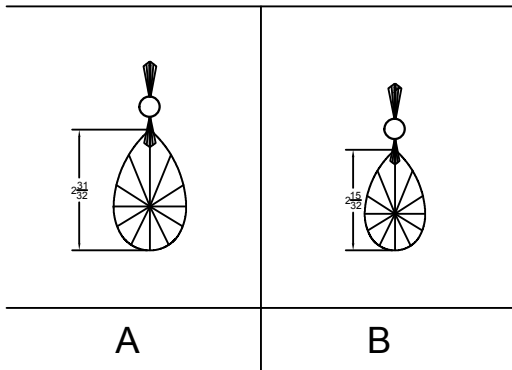

FIGURE-2
- Hang the crystals following the crystal schedule. See Figure-2 and 3.